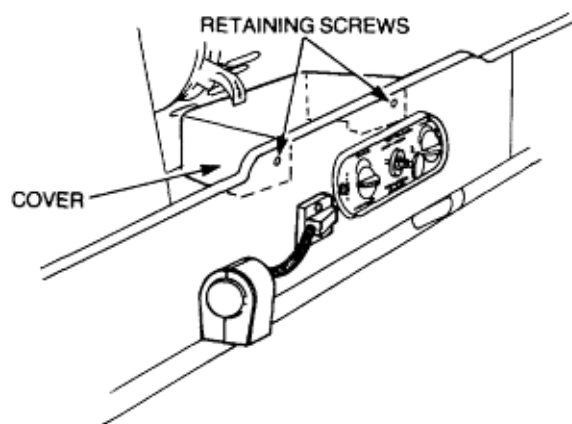

Figure 161 Map Reading Light Removal
- Remove the two screws securing the cover to the dash panel (Figure 161).